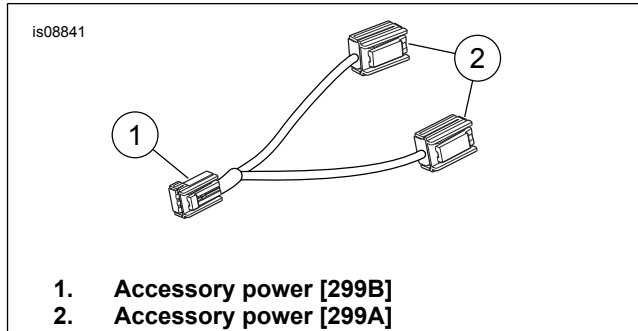

Figure 14. Accessory Power Wire Harness
- b. Install 69200921 "Y" (See Figure 14) to vehicle side 299, with one end to the faring amplifier harness.